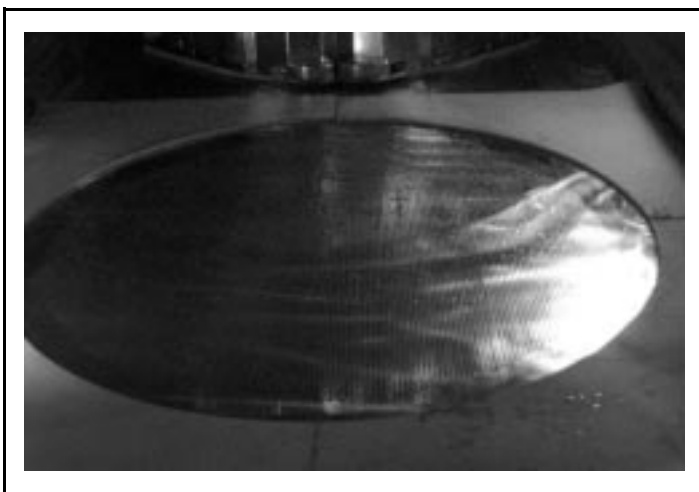

FIGURE 2 (MSSMD445AE)
2. Raise press bell and slide the rubber quadrants under the bell as shown in FIGURES 2 and 3. *Do not place hands under the bell.*